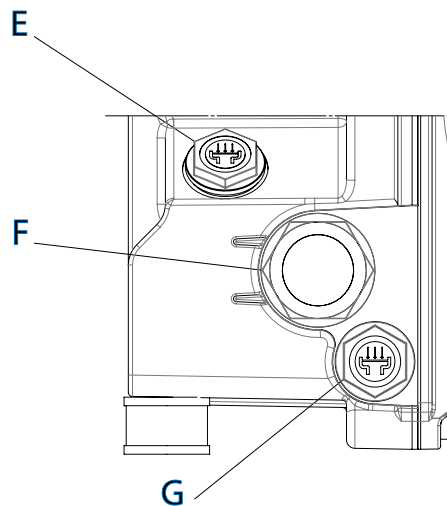

Fig.8
Carry out the first filling up through the plug (E) up to the half of the sight glass (F) and close the plug (E) (Figure 8).
Please refer to Fig. 8, section 5.7. Unscrew the oil filling plug (E) and the discharge plug (G) only after having placed below the pump tank a suitable container (proper size and shape) for collecting the total quantity of oil.